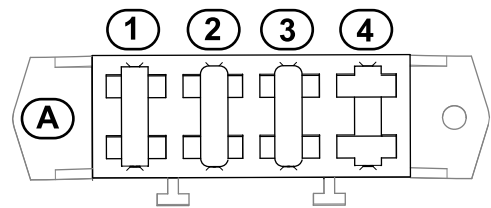

Figure 29
3. Check the fuses in the fuse block (Figure 29).
4. If any fuse is blown, replace them with a fuse of the appropriate voltage and amperage (Figure 29). Refer to the traction unit *Service Manual* for specific fuse part numbers.